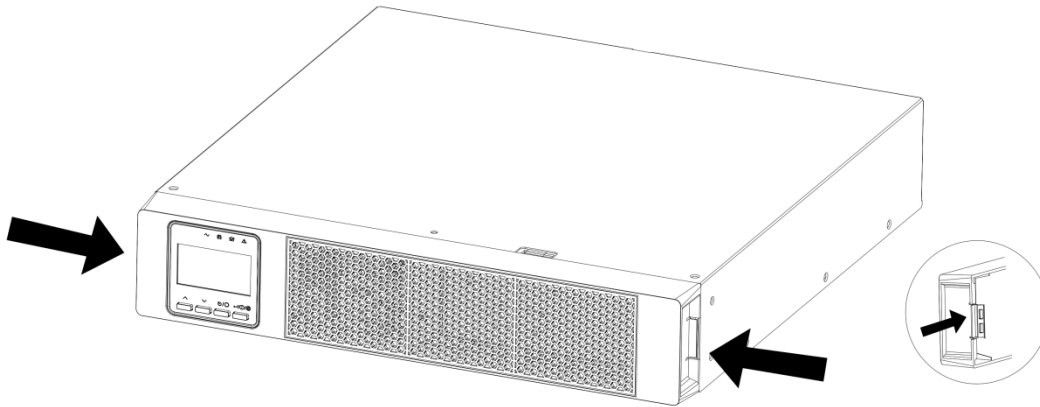

Figure 4: Press the Latches to Remove Faceplate
8. Press both sides of UPS faceplate until the latches release (see Figure 4).